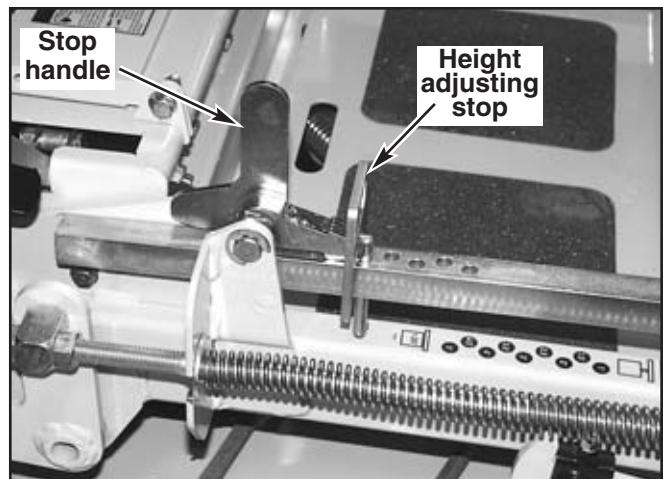

Figure 11-34
4. Set cutting height at $3 \frac{1}{4}"$ in the height indicator by placing the height adjusting stop in the 3" hole, and turning the height stop so that the flat side is against the stop handle. Fig. 11-34
5. Clamp the height adjusting stop against the stop handle (Fig. 11-34). This will assure that the height will not move during the setting